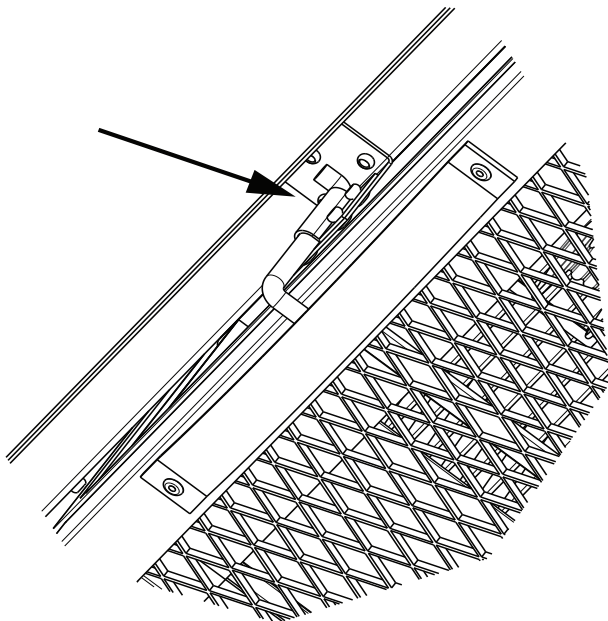

Fig. 20 – Verify Closed Unit is Latched Securely
5. Raise the inner Return Air Purifier assembly back into closed position, and latch to engage power to the unit. Verify latch is closed and secure (Fig. 20).